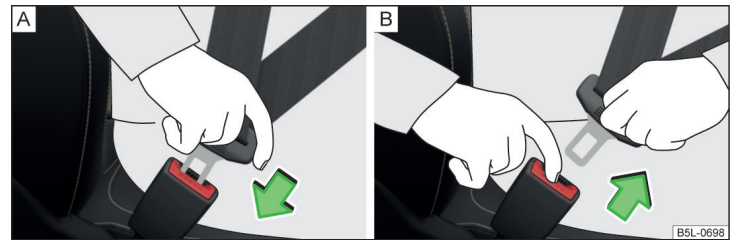

Fig. 19 Fastening/unfastening the seat belt
- › Insert the lock tongue into the belt buckle for the seat » Fig. 19 - [A] until it audibly clicks into place.
- › Hold the lock tongue and press the red button in the belt buckle » Fig. 19 - [B]. The lock tongue pops out.